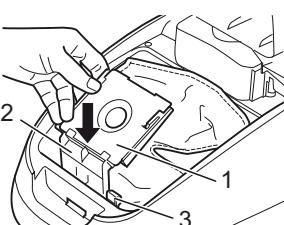

Fig. 22
8. Then reinser the dust bag holder (Fig. 22/1) into the dust chamber by pushing the guide of the dust bag holder (Fig. 22/2) straight into the retaining rails until the interlock for the dust compartment cover (Fig. 22/3) is folded back.